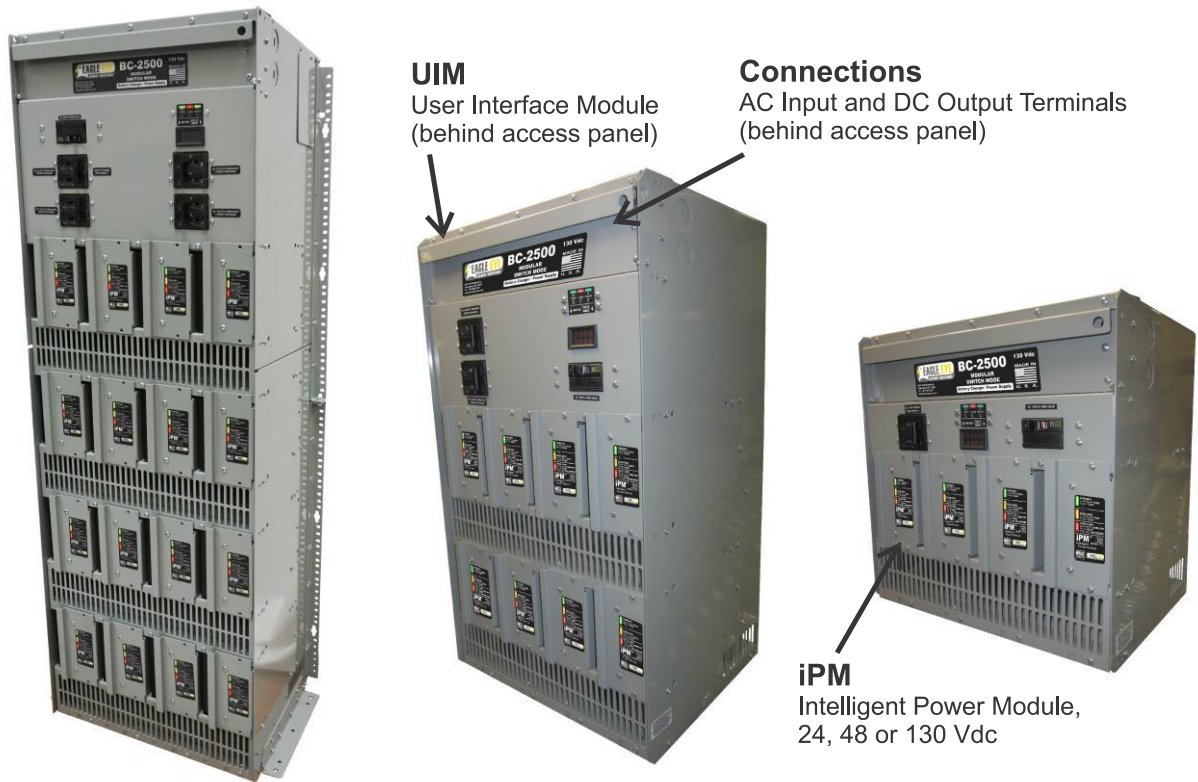

Figure 1-1: BC-2500 System Components
As is illustrated in Figure 1-1, a BC-2500 system includes a chassis. The chassis has an access panel near the top for access to the User Interface Module (UIM) that serves as the system controller and for access to the AC input and DC output terminals. Chassis are available with four (4), eight (8), or sixteen (16) [130V models only] slots for Intelligent Power Modules (iPMs).